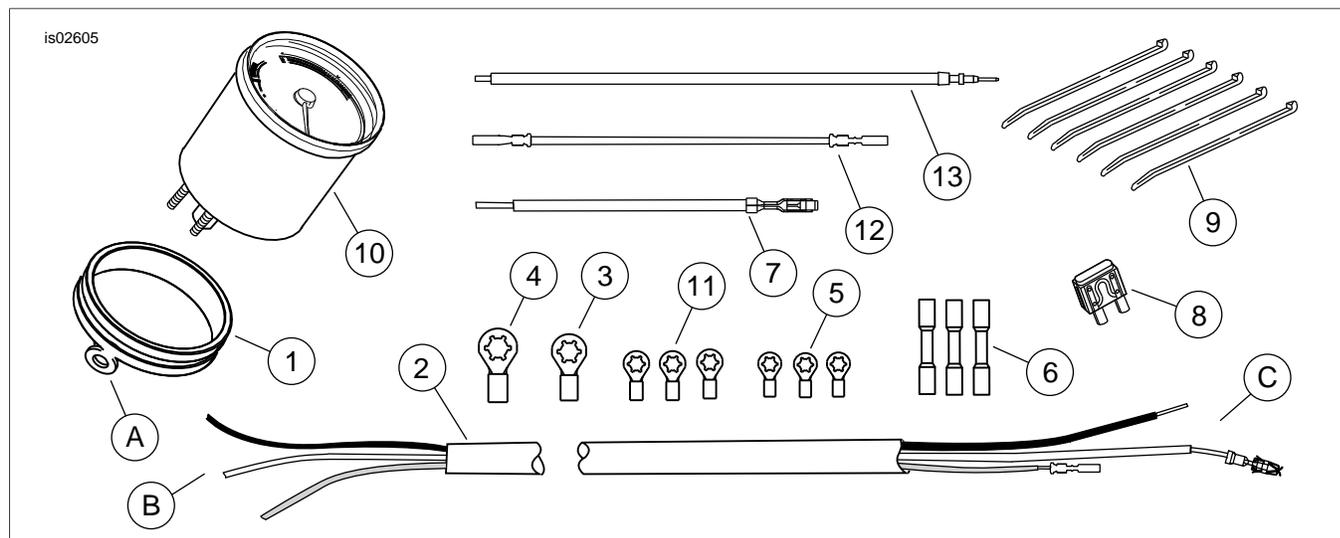

Figure 7. Service Parts, Mini-Tach Gauge Kit
- d. See Figure 7. Install the 2 Amp fuse (8) from the kit into the P&A IGN fuse cavity to complete the circuit.
- c. See Figure 7. Install the 2 Amp fuse (8) from the kit into the OPEN fuse cavity to complete the circuit.
- d. See Figure 7. Obtain the Orange/ White power adapter wire (7) from the kit. Insert the terminal on the adapter wire into the "P&A IGN" "2A MAX" cavity until it stops. Refer to a nearby factory-installed terminal for comparison to ensure proper orientation and depth.
- c. See Figure 7. Install the 2 Amp fuse (8) from the kit into the P&A IGN fuse cavity to complete the circuit.